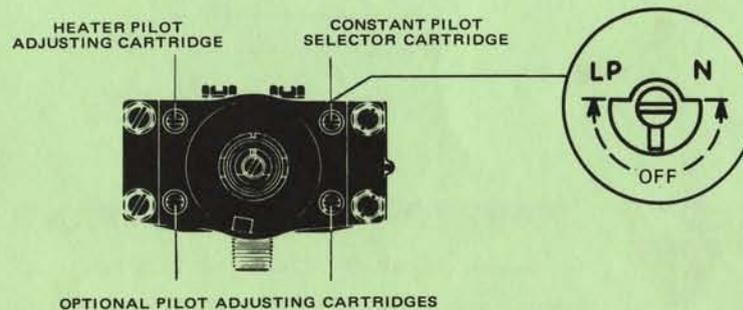
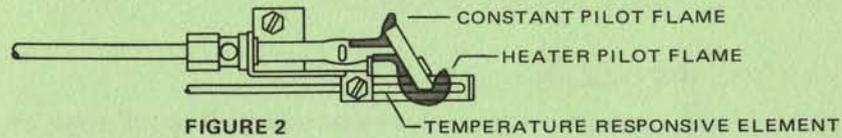

FIGURE 1
FIGURE 2
**Non-Adjustable Thermostat**—This type of thermostat has been factory pre-set for use on LP gas and has no pilot adjustment screws. See Fig. 1.
**Adjustable Thermostat**—If your range is equipped with this type thermostat, you have a pilot SELECT-A-GAS KEY cartridge with a pin stop and two pilot adjustment screws (see illustration for their location). See Fig. 2.
1. Turn thermostat dial to approximately 350° setting. This opens thermostat and allows gas to flow to the heater pilot. See Fig. 2.
<ol style="list-style-type: none"> <li>1. ■ Oven too hot (burns food) <ul style="list-style-type: none"> <li>■ Oven burner won't shut off</li> <li>■ No gas to oven pilots</li> </ul> </li> </ol>	<p>A. Check the pilot Select-A-Gas Key cartridge to be sure it's set for the type of gas being used. (See pilot adjustment for instructions.) See Fig. 2.</p>
Gas flow to the Constant Pilot is controlled by the red Constant Pilot Selector Cartridge on the front of the control body (FIGURE 1). Gas flow to the Heater Pilot is controlled by the green Heater Pilot Adjusting Cartridge (FIGURE 1). NOTE: 6000 SERIES ALL-TEMP SYSTEM thermostats may also have one or two other adjustment cartridges (FIGURE 1), in addition to the two mentioned above, to control filtered pilot gas to top burner, griddle or broiler pilots.
2. **CONSTANT PILOT SELECTOR CARTRIDGE MUST BE SET FOR CORRECT GAS.** It is "OFF" when slot is in *horizontal* position (FIGURE 1 - Inset). Using screwdriver, turn clockwise to stop for LP Gas, counterclockwise to stop for Natural Gas. (The LP position may also be used on extremely high pressure Natural Gas to obtain the proper constant pilot flame.)
3. Using screwdriver, turn green slotted Heater Pilot Adjusting Cartridge (FIGURE 1) in either direction until pilot flame just envelops Temperature Responsive Element (mercury bulb) (FIGURE 2).